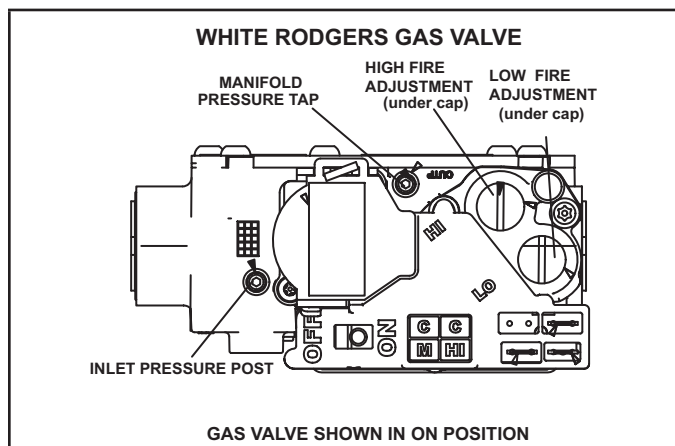

FIGURE 60
Gas Valve Operation (FIGURE 60)
- 6 - Move gas valve switch to OFF. See FIGURE 60.
- 8 - Move gas valve switch to ON. See FIGURE 60.
An inlet pressure post located on the gas valve provides access to the supply pressure. See FIGURE 60. Back out the 3/32 hex screw one turn, connect a piece of 5/16 tubing and connect to a manometer to measure supply pressure. See TABLE 18 for supply line pressure.
A manifold pressure post located on the gas valve provides access to the manifold pressure. See FIGURE 60. Back out the 3/32 hex screw one turn, connect a piece of 5/16 tubing and connect to a manometer to measure manifold pressure.
- 5 - If necessary, make adjustments. FIGURE 60 shows location of high fire and low fire adjustment screws.